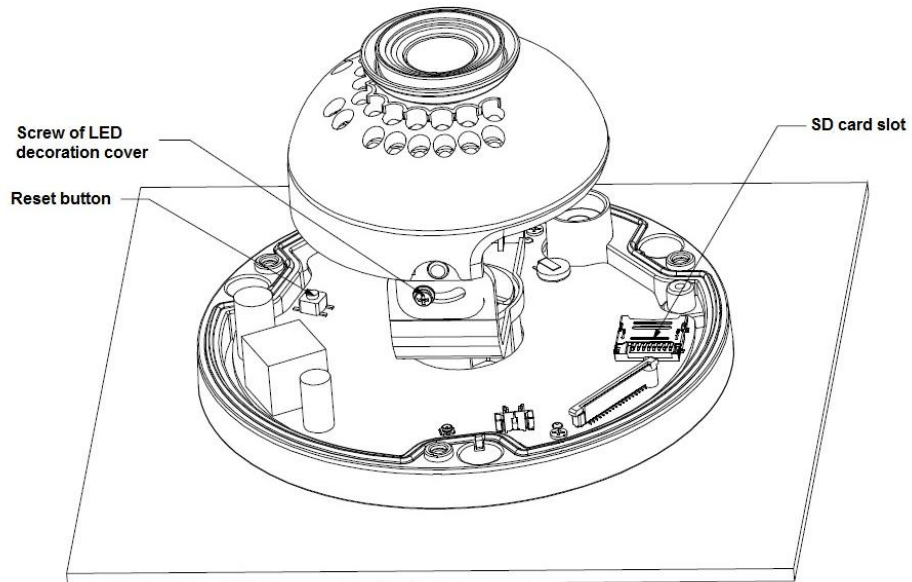
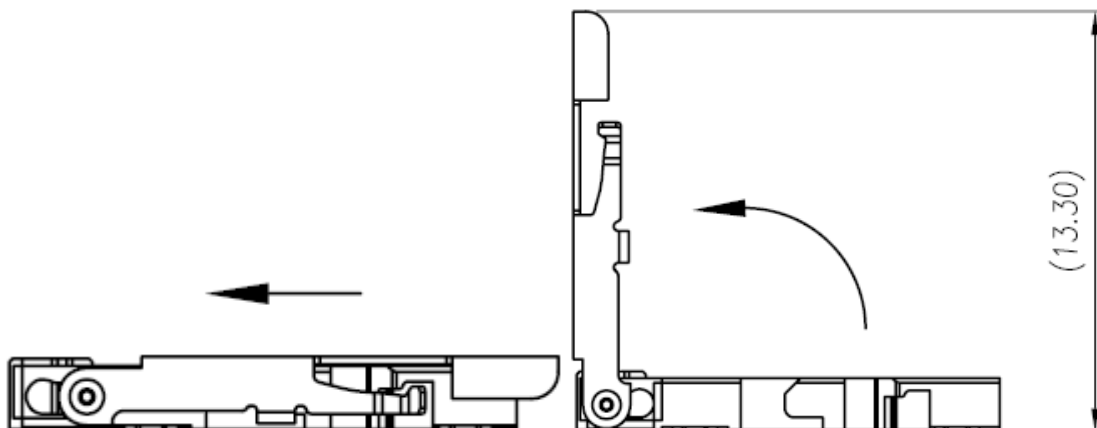

Figure 2-2 Device installation illustration 2
Figure 2-3 Micro SD Card installation illustration 1
Hold bottom of bracket with hand, horizontally rotate bracket, adjusting lens direction to designated position. Loosen one M2 screw on LED decoration cover (loosen only, do not take it down), hold the decoration cover with hand, making lens rotate vertically. Adjust vertical direction of lens to appropriate angle, and fasten the M2 screw. Range of lens: vertical ($0^{\circ} \sim +65^{\circ}$), horizontal ($0^{\circ} \sim +355^{\circ}$). See Figure 2-2.
When you need to reset the device, press the “Reset” button in Figure 2-2 for 10 seconds while connecting device to power.
When you need to use WPS function, press the “Reset” button in Figure 2-2 for 1 to 2 seconds while connecting device to power, then press WPS button on the router. Generally the device can be connected to corresponding router within 1 minute (supported by some series products).
Step 1 Find the Micro SD Card slot in figure 2-2, open the Micro SD Card slot according to the direction in figure 2-3.